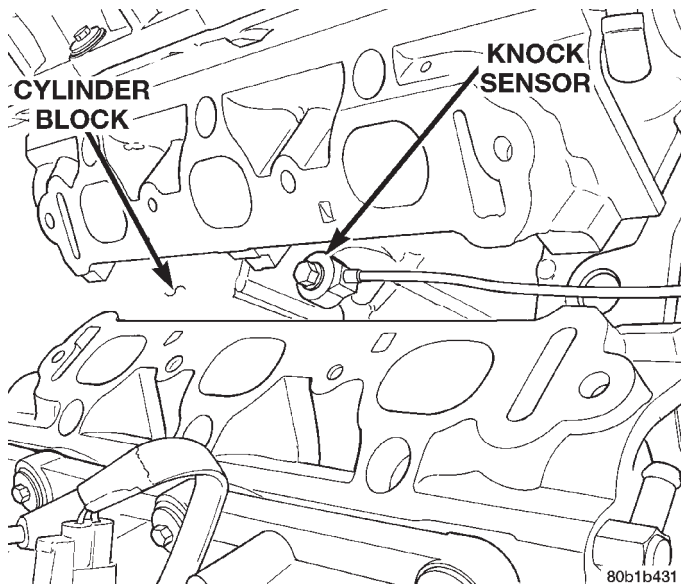

Fig. 35 Knock Sensor—3.5L Engine
(1) Remove intake manifold plenum and intake manifold. Refer to Group 11, Exhaust and Intake System.
(2) Disconnect electrical connector from knock sensor(s) (Fig. 35).